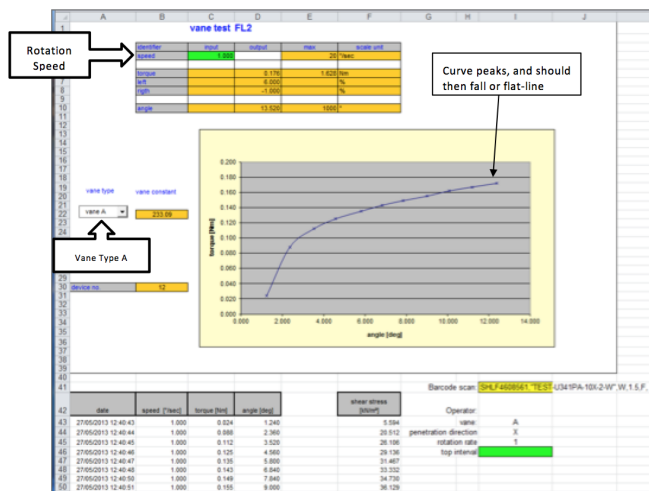

Figure 6. Monitor Acquisition.
6. With GeoLAB already open, Click on **init**; set **sample-time** to 1 or 2 readings/sec (i.e., sampling rate); and click the **traffic light** icon to start the measurement (Figure 8a). Monitor the test curve on the Excel screen (Figure 6). When the maximum shear strength of the sediment (highest point of the curve) has been reached, stop the test by clicking the **STOP sign** icon in the **GeoLAB** application (Figure 8b).